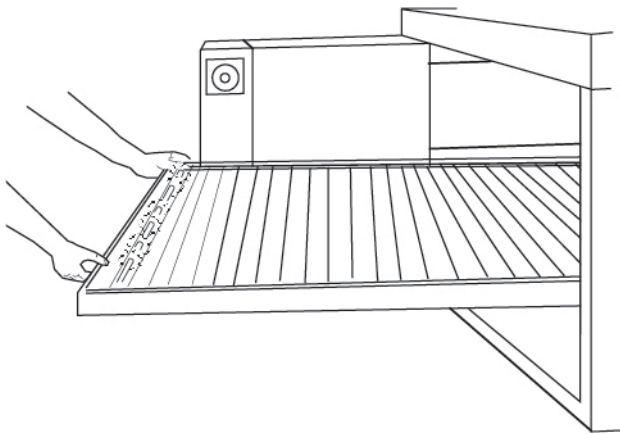
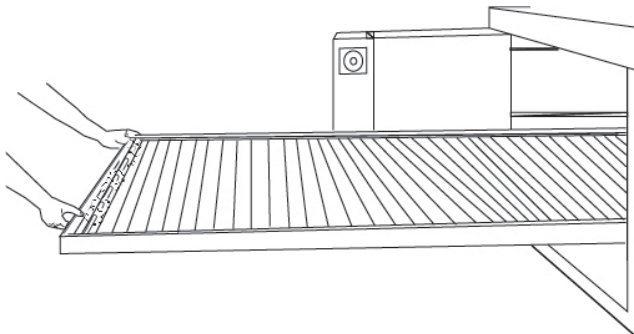

Figure 30.
Figure 31.
6. Remove conveyor as shown (Figure 30 and Figure 31).